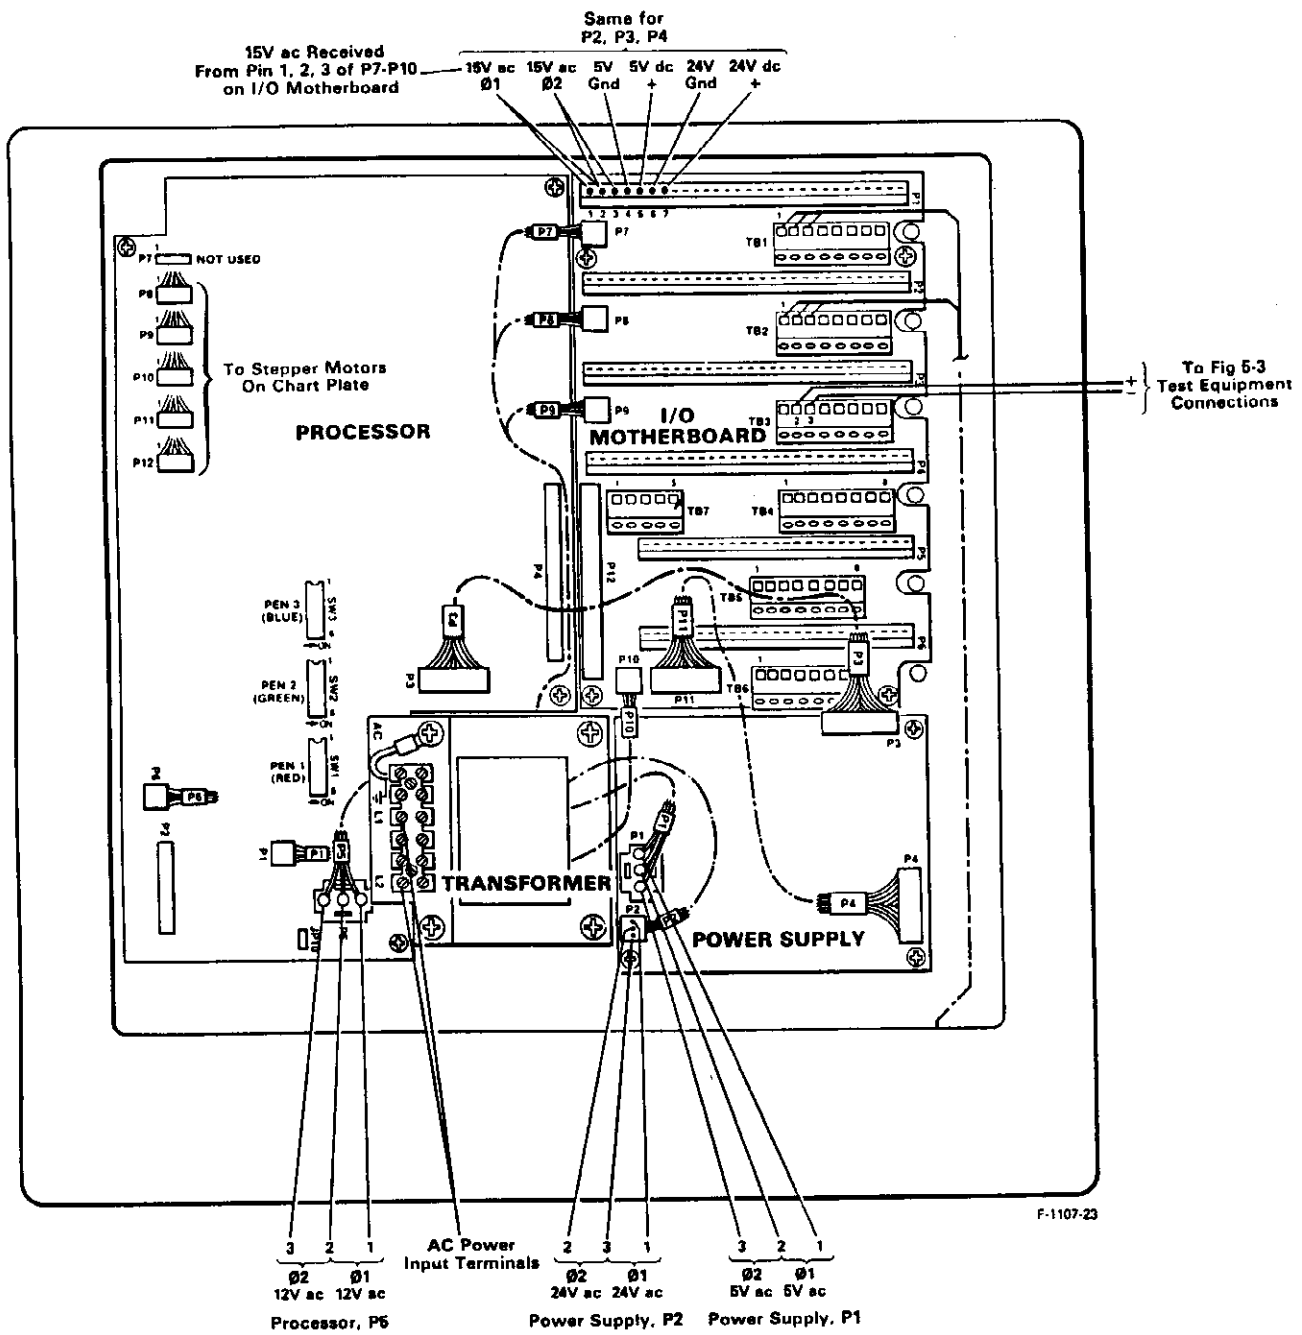

Figure 5-1. Voltage Measurement and Test Connection Diagram
4. On Processor board, Figure 5-1, disconnect plugs P8-P12 (stepper motors), plug P1 (lock and pen switches on chart plate), and ground strap spade lug at transformer.
5. While supporting chart plate, replace chart plate plug P1 into the P1 socket on processor board. Orient per Figure 5-1.
6. Replace stepper motor plugs P8 through P12 into correct numbered sockets on processor board. Orient plugs per Figure 5-1.
To assure that the power system is providing proper dc supply voltages, refer to Figure 5-1 and use a voltmeter to check voltages to circuit boards and stepper motors, as applicable.
Each of four pen I/O board connectors, P1-P4 on I/O motherboard, supplies operating voltages to I/O boards through pins 1-7, per Figure 5-1.
4. Refer to Figure 5-1 and locate TB3 terminals 2 and 3 (input) on Pen 3 I/O board location.
6. Set SW3 DIP switch (Figure 5-1) as diagrammed in Figure 5-4 View B, for high-level (V) calibration.
2. Set SW3 DIP switch (Figure 5-1) as diagrammed in Figure 5-4 View A, for low-level calibration.